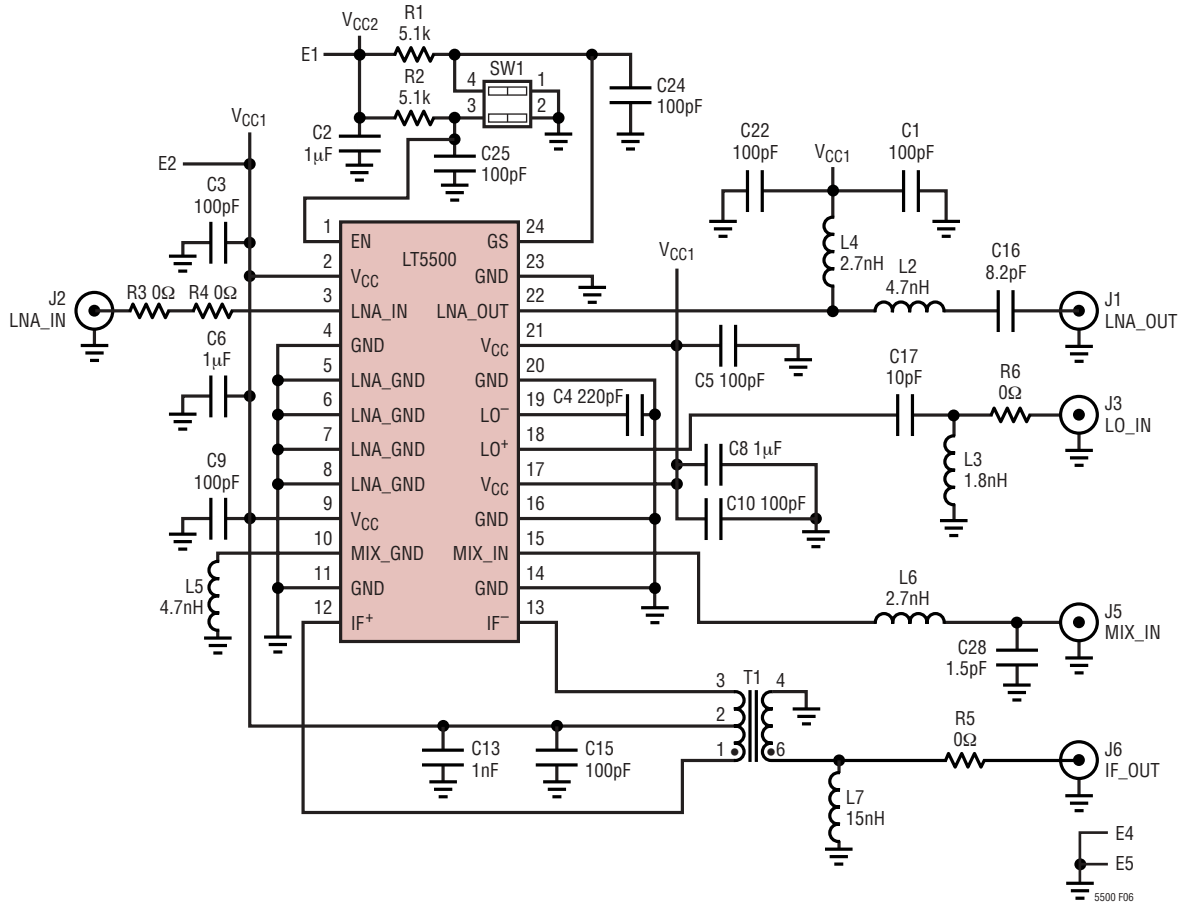

Figure 6. 2.5GHz Evaluation Circuit Schematic
**$V_{CC}$  (Pins 2, 9, 17, 21):** Power Supply Pins. See Figure 6 for recommended power supply bypassing.
**IF+, IF- (Pins 12, 13):** Intermediate Frequency (IF) Mixer Output Pins. These pins must be inductively tied to  $V_{CC}$ .
Figure 6 shows the circuit schematic of the evaluation board. Each signal terminal of the evaluation board has provisions for three matching components in a T-formation. In practice, two or fewer components are needed to achieve the match. In the case of the LNA input, no external components are necessary if the band select filter provides the necessary AC coupling. Otherwise AC coupling must be provided. A similar consideration applies to the Mixer input pin. The LO terminal of the evaluation board was designed to permit evaluation of both single ended and differential matching configurations. The differential configuration anticipates the use of a transformer. Similarly, the IF output board layout was designed to permit